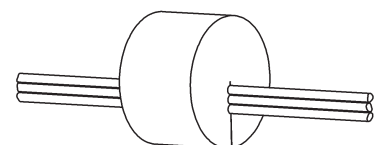

Fig. 5:
- **Conduit** – Included with the Carbon Monoxide transmitter is a foam plug to seal the ½ inch EMT. Place the wires into the plug as shown in Fig. 5 and then insert the plug into the conduit sealing the conduit.